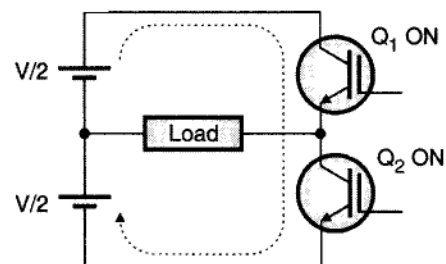

Fig. 3.9 : Effect of cross conduction
- When both Q_1 and Q_2 conduct simultaneously the input dc supply is short circuited as shown in Fig. 3.9 and an unlimited current flows through the IGBT which may damage them.